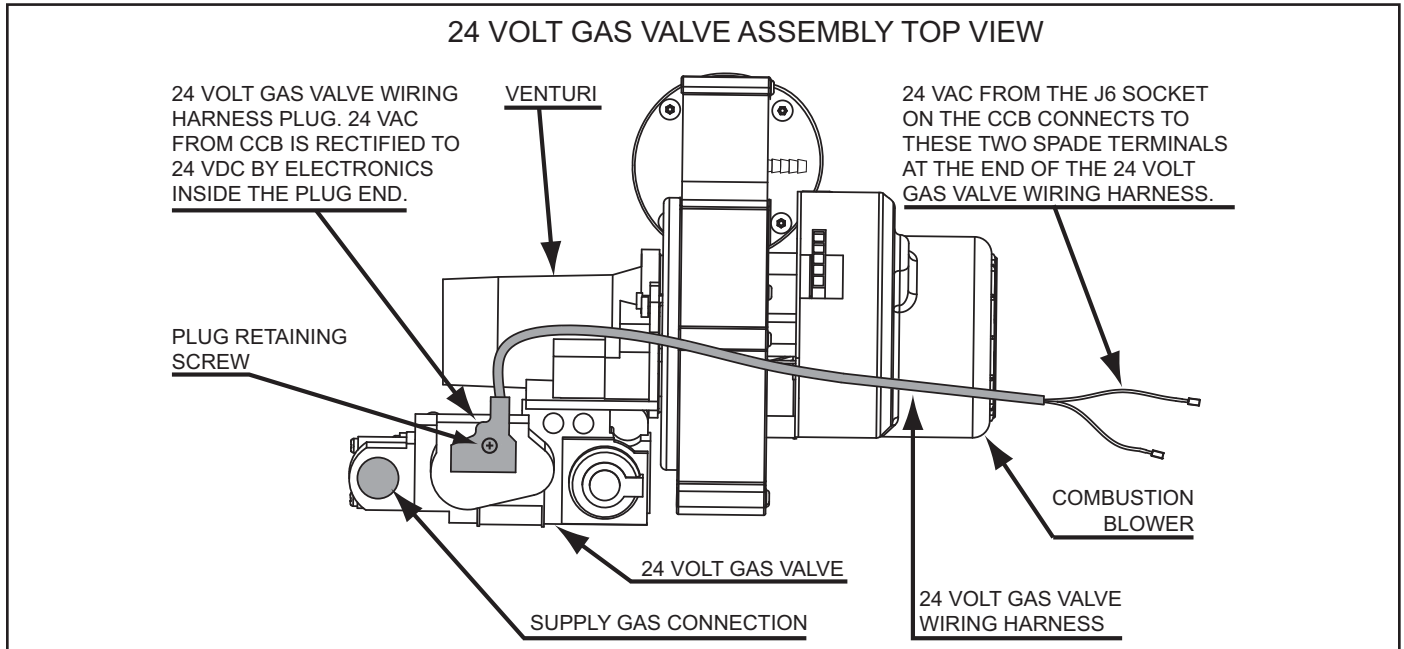
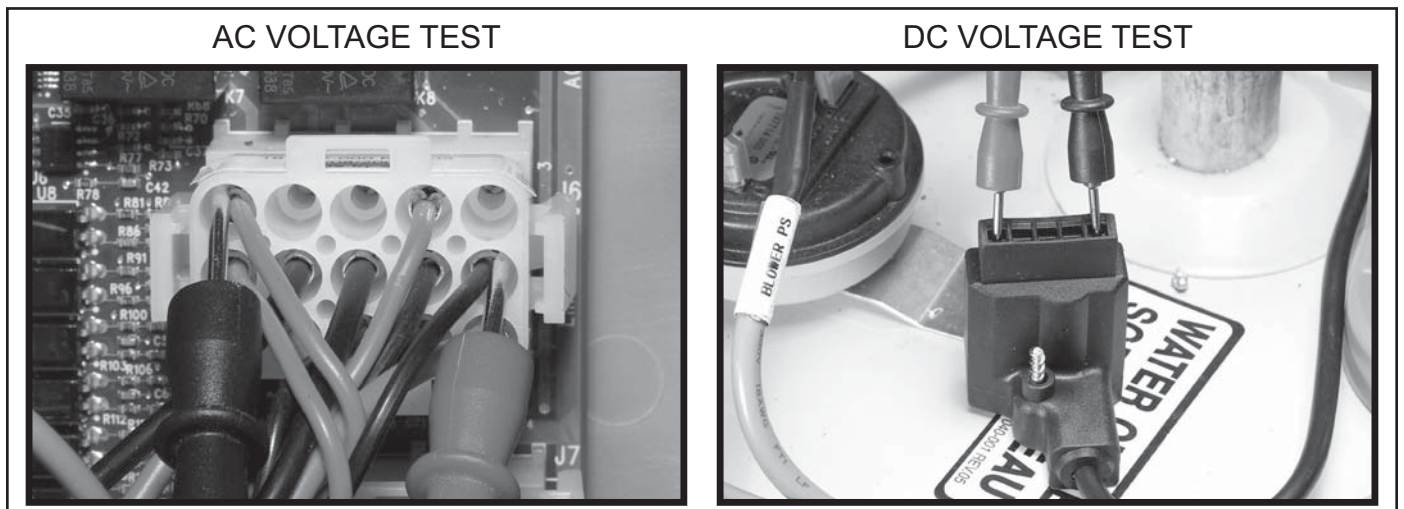

Figure 23
Figure 24
The 24 Volt Gas Valve on these water heaters is DC voltage valve. The CCB sends 24 VAC to the valve and the AC voltage is rectified into a DC voltage by electronics contained inside the plug end of the 24 Volt Gas Valve wiring harness, see Figure 23 below.
1. Check for 24 VAC supplied to the 24 Volt Gas Valve at pins 2 and 15 of the J6 Plug on the CCB, see CCB Cover Removal And Replacement on page 40 and CCB Circuit Board Layout on page 41. Using an "AC" volt meter insert the two test probes into pins 2 and 15 of the J6 Plug on the CCB during the Ignition Verification or Heating operating states, see Figure 24 below. 24 VAC should be present. The animated gas valve Status Icon is displayed on the Control System LCD during these operating states. See Operating States on page 48 and Desktop Screen on page 46.
2. Check for 24 VDC at the plug end of the 24 Volt Gas Valve wiring harness during the Ignition Verification operating state. Loosen the retaining screw for the 24 Volt Gas Valve wiring harness plug and disconnect the plug, see Figure 23 above. Lay the plug end upside down on a flat surface. Using an "DC" volt meter insert the two test probes into the two outside plug sockets, see Figure 24 below. 24 VDC should be present.
3. Loosen the retaining screw for the wiring harness plug on the valve and disconnect the plug, see Figure 23 on page 23.